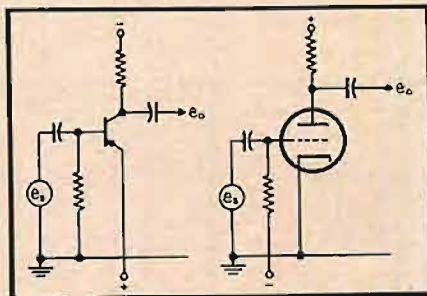

Fig. 4. The grounded-emitter circuit is the dual of the grounded-cathode amplifier.
**Grounded Emitter.** Figure 4 shows a popular type of transistor circuit for attaining good voltage amplification. Gains as high as 46 db are possible, and the circuit exhibits a 180-deg. phase reversal at its output, making possible the application of negative feedback around it without resorting to transformers. The input and output impedances are
Fig. 2. Test connections used for making pictures of Figs. 4 and 7. For Fig. 6 the resistor was omitted. Pictures were approximately 10 in. wide and 7 in. high on a 20-in. picture tube, DuMont Type 233 oscilloscope, 3 feet from camera.  $\frac{1}{2}$  second exposure at  $f/3.8$  on XX120 film. Sawtooth frequency as noted on each figure.